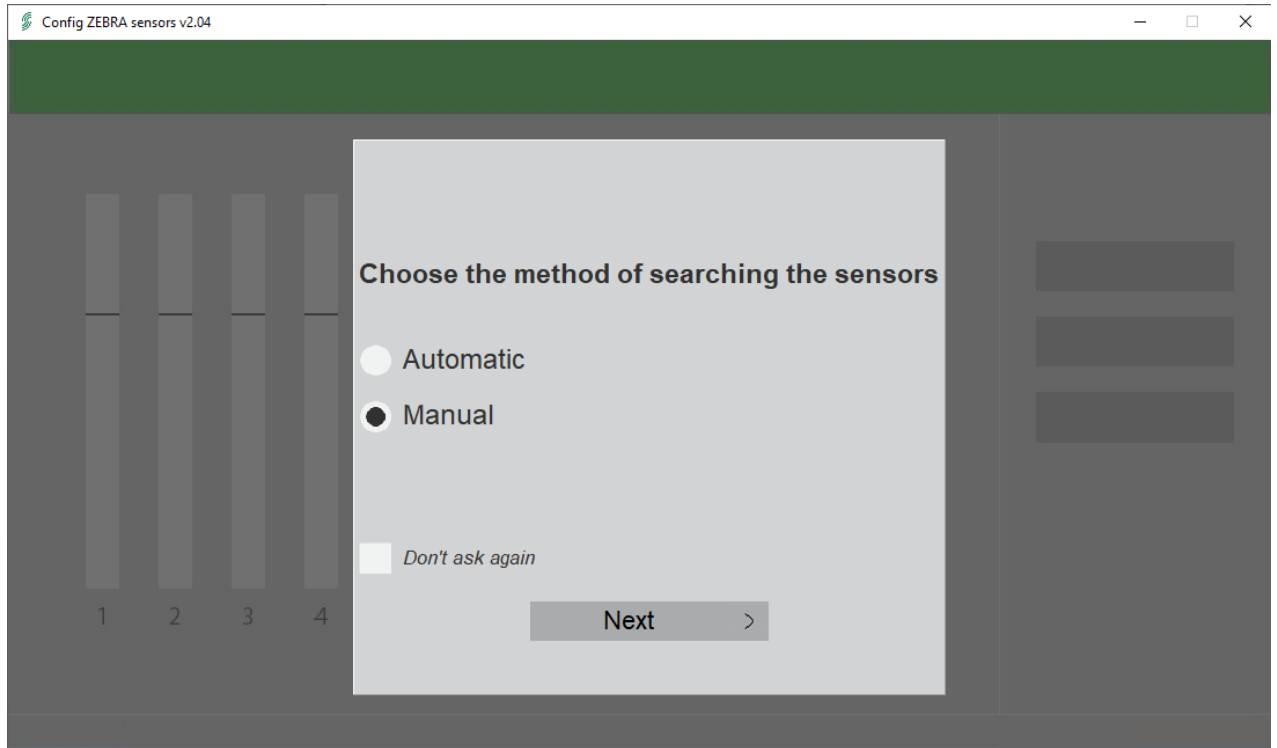

Figure 2.16
- 2.3.7.2.1 Start the program “Config ZEBRA Sensors” from the desktop. After the program has been started, it will appear the window of the search type shown in Figure 2.16.
The “Search” button is used to find occupied/free logical numbers, if the manual search was chosen (Figure 2.16). If the automatic search was chosen, the occupied/free logical numbers are determined automatically.